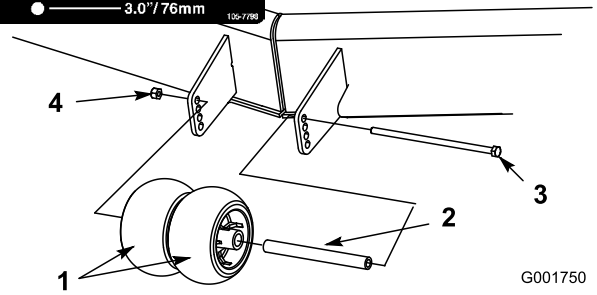

Figure 21
4. Select a hole so that the center rollers are positioned to the nearest corresponding height-of-cut desired (Figure 21).
5. Install the center rollers, bushing, spacer, bolt, and nut (Figure 21).
3. After adjusting the height-of-cut, remove the flange nut, bushing, and bolt (Figure 21).